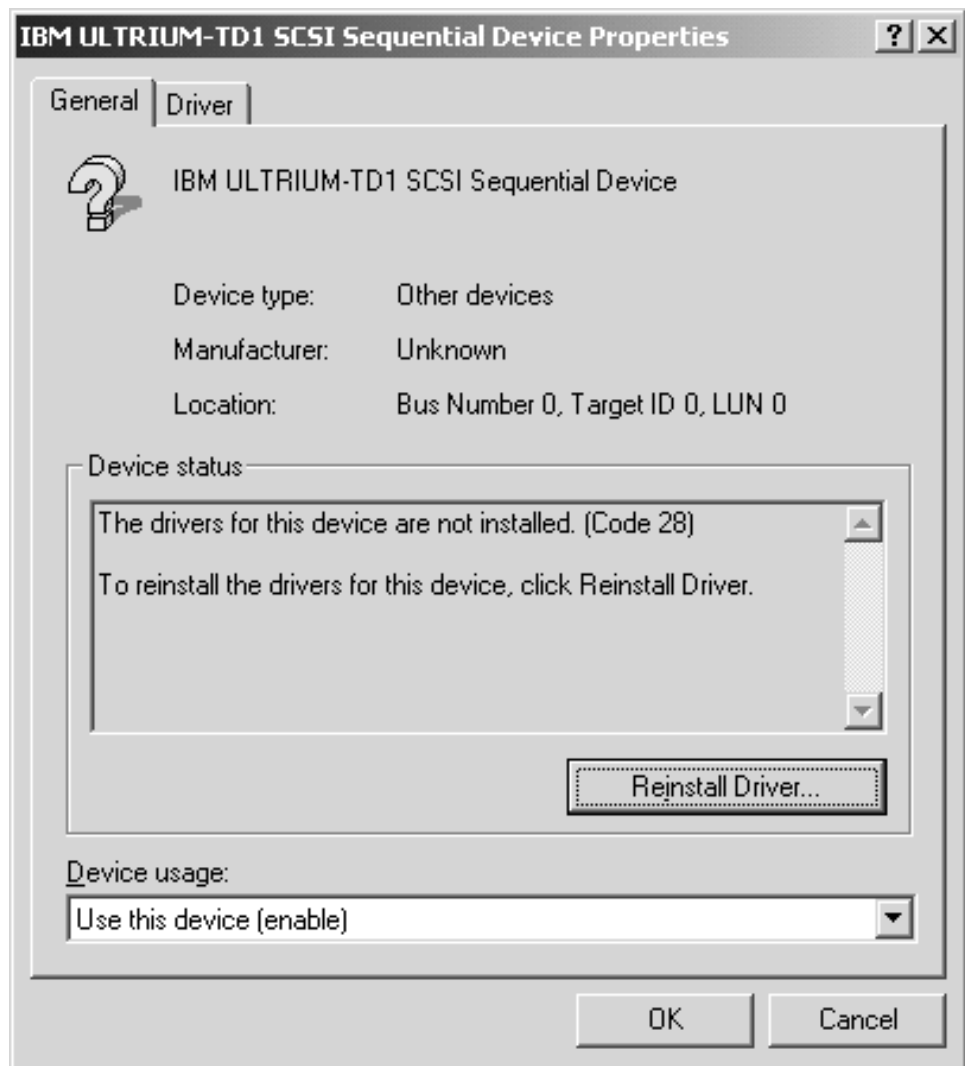

Figure 29. Reinstall Driver Menu
9. A window should open. Click **Reinstall Driver....** See Figure 29. If there is no **Reinstall Driver...** button on your screen, click on the Driver tab and then click **Update Driver....**